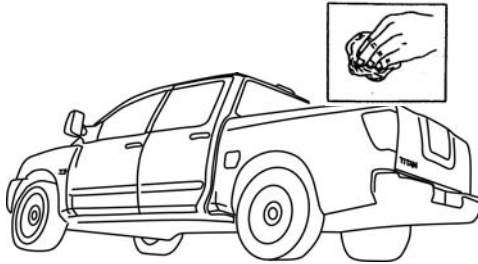

Figure 2
- 2) Before installing the bedliner and tailgate cover, thoroughly clean the bed and tailgate sheet metal with mild soap and water. Clean the rear edge of the sheet metal bed with a 50/50 alcohol and water solution. (See Figure 2).